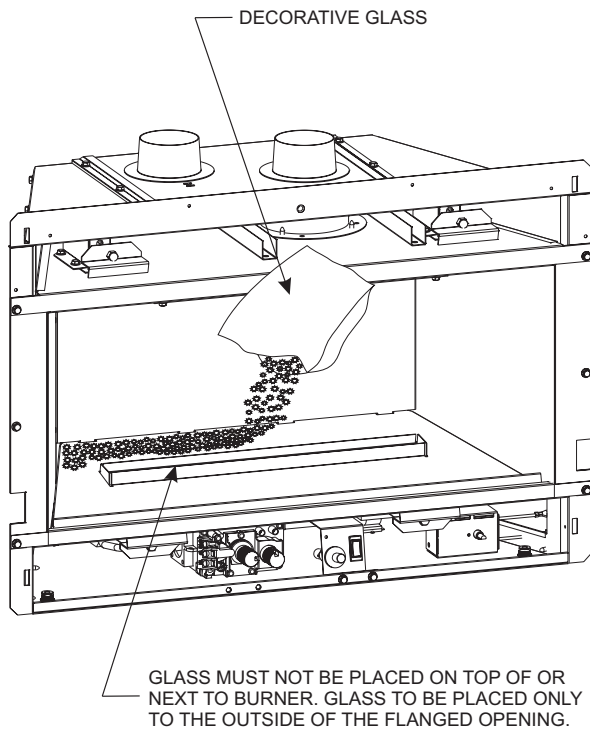
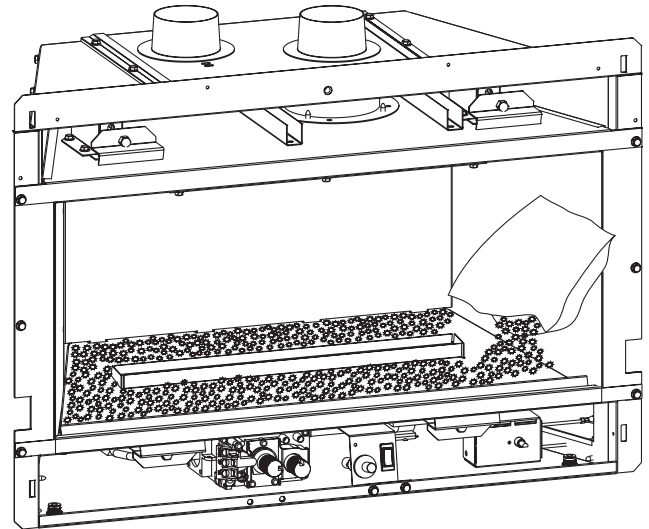

Figure 18
Figure 19
2. To install the Decorative Glass, cut off a corner of the plastic bag and proceed to apply the glass to the rear shelf on the Loft burner (area behind the burner). Apply only enough glass to the Top Cover to cover the black metal surfaces. Do not allow the glass to fall around the burner tube. See Figure 18. Apply the remaining decorative glass to the front sloped surface of the Top Cover. Start by placing the glass along the front edge of the top cover, then gradually place the glass up the sloped top until completely covered. Do not allow the glass to fall around the burner tube. See Figure 19.